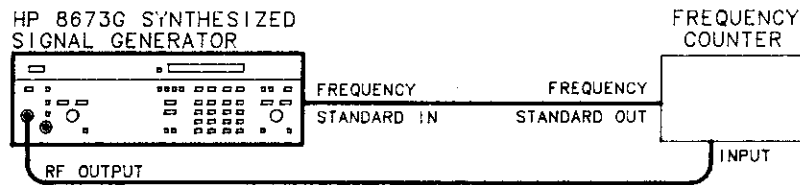

Figure 4-4. Frequency Range and Resolution Test Setup
1. Connect the equipment as shown in Figure 4-4. Set the Signal Generator rear panel **FREQ STANDARD INT/EXT** switch to **EXT**. Remove the **FREQ STANDARD** jumper and connect **A3J10** to the 10 MHz frequency standard output of the frequency counter. With the Signal Generator and the frequency counter sharing a common timebase, the frequency counter should agree with the Signal Generator **FREQUENCY MHz** display ± 1 count with any selected frequency counter resolution.